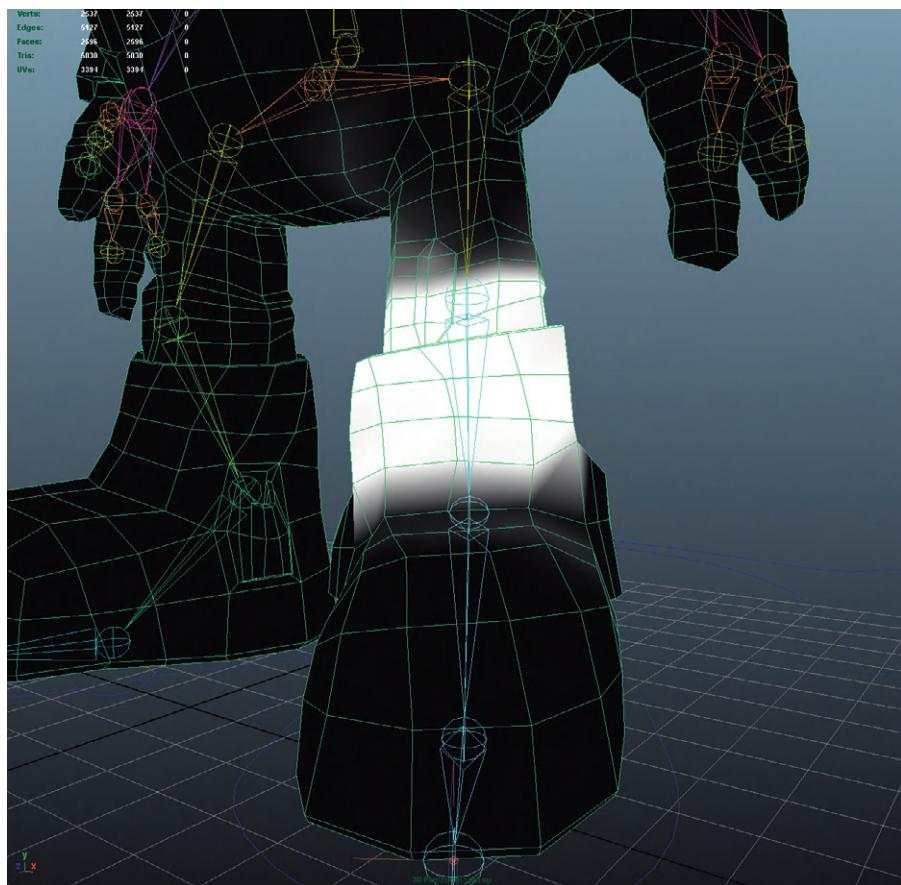
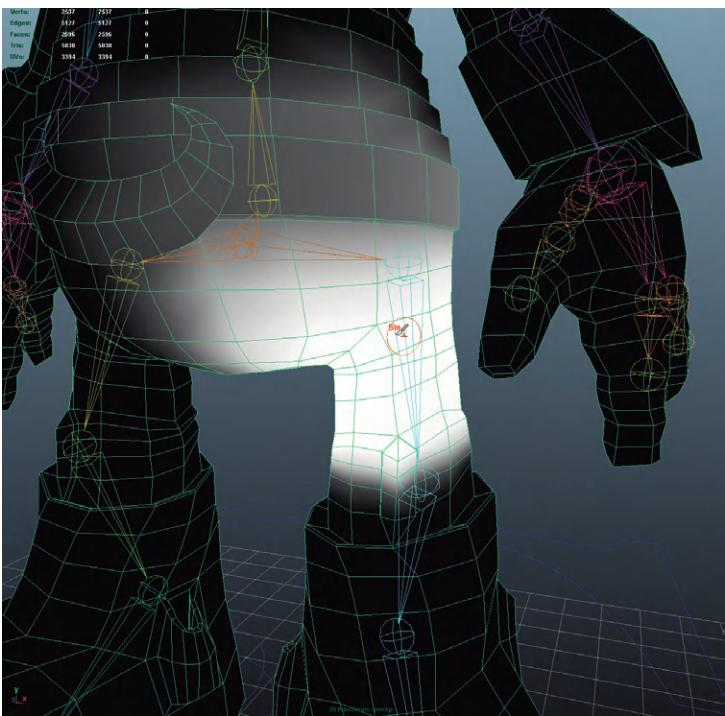
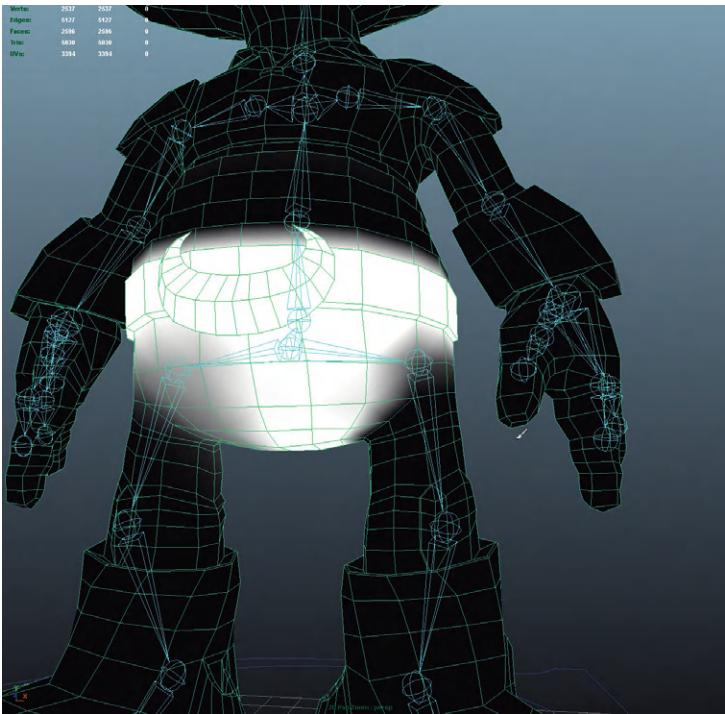

FIG. 8.31 First pass of knee skin weights.
FIG 8.32 Skin weights for hip.
FIG 8.33 Skin weights for Root.
Step 12: Repeat up the leg for the knee (Fig. 8.31) and the hip (Fig. 8.32). Continue and paint the area for the Root (Fig. 8.33).